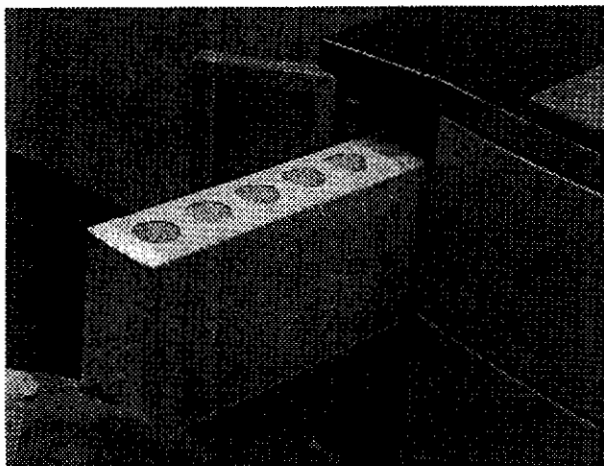

Figure 2-4
5. Remove the cartridge of activated carbon from its plastic bag. Open the door located on the left side of the paraffin oven by gently pushing where indicated. With the vent holes to the top and the connecting hole towards the instrument, slide the cartridge into the receptacle (Figure 2-4). When a slight resistance is felt, push firmly on the cartridge to ensure a proper connection.